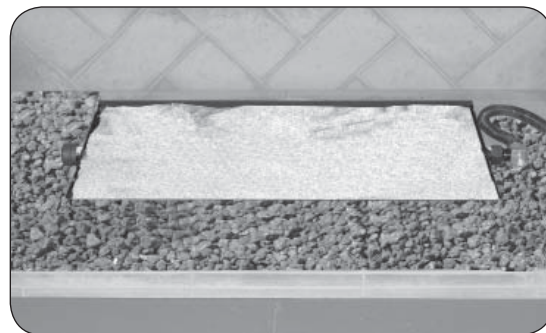

Fig. 13-1 Place sand/vermiculite
1. Fill the burner pan completely with the sand/vermiculite (see Fig. 13-1).